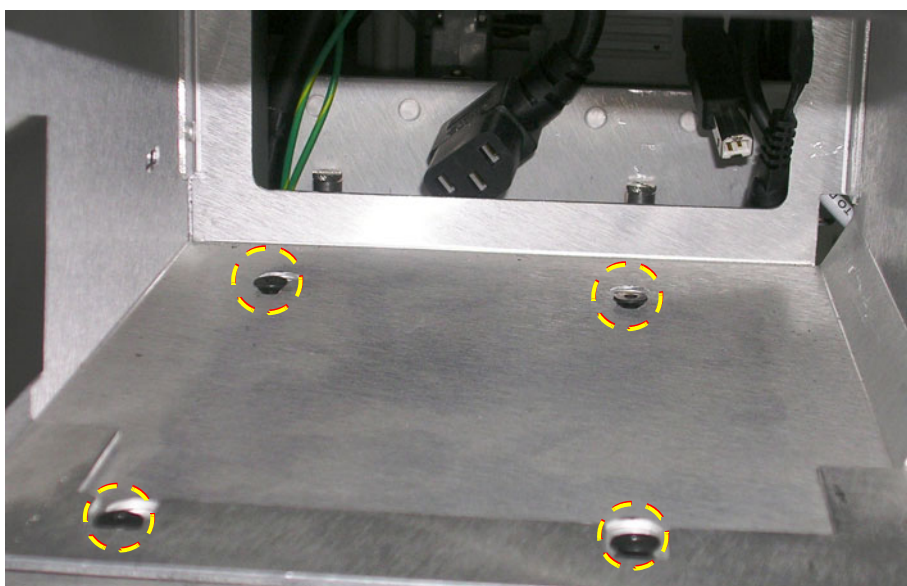

Figure 8-123 Location of Peripherals Console Retaining Screws
- 3) Loosen the 4 retaining screws that secure the peripherals console in position, as shown in Figure 8-123.
1. Place the new peripherals console in its position on the system and secure with securing screws previously released - Figure 8-123.